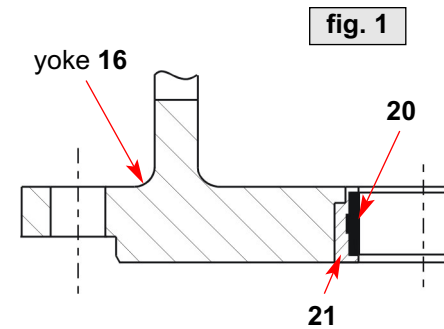
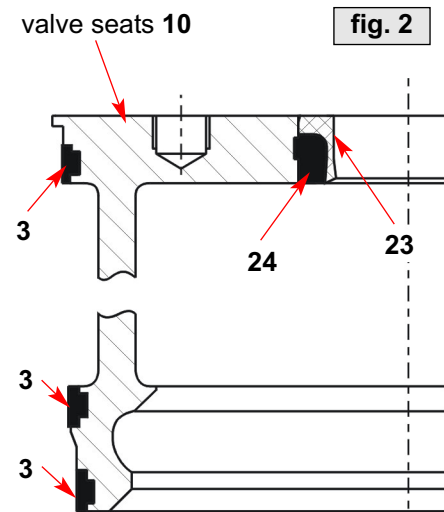

fig. 1
fig. 2
- a. Insert the guide bush (20) into the metal guide bush (21). Place the guide bush (21) in the yoke (16) (see fig. 1).
- b. Insert the slightly greased o-rings (19) into the operating cam (13).
- c. Provide the upper shaft seal (23), seat seal (24) and housing seals (3) with a thin grease layer. Install the upper shaft seal and seat seal in the valve seat (10). Insert the housing seals (3) via the valve seat into the grooves. Check the even fit of the seals (see fig. 2).